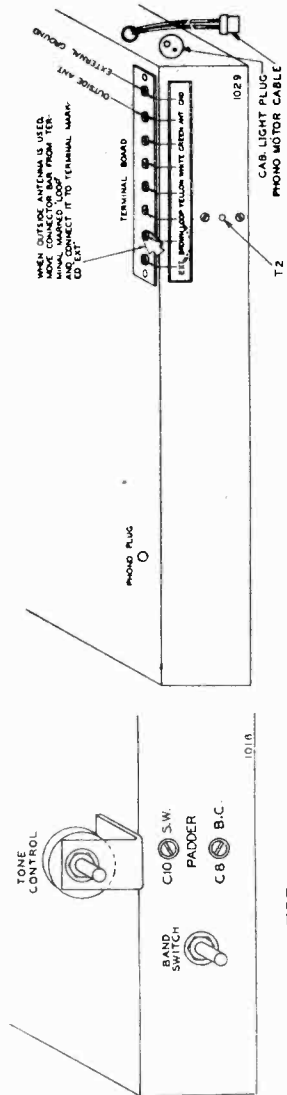

FIG. 1.—REAR VIEW OF CHASSIS
**NOTE "B"**—Loop alignment is made with the chassis mounted in the cabinet and the loop antenna connected to the terminal board. The signal generator is connected to the "ANT." and "GND." terminals and the jumper on the terminal board connected to the "EXT." terminal. (See Fig. 1).